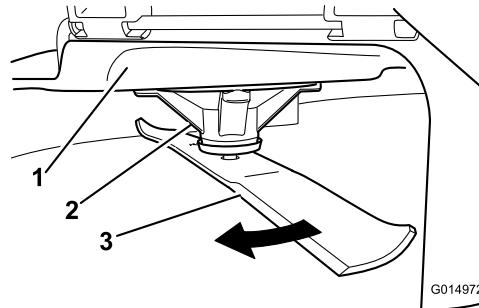

Figure 55
2. While wearing thickly padded gloves, or other adequate hand protection, slowly rotate the blade to be measured into a position that allows effective measurement of the distance between the cutting edge and the level surface the machine is on (Figure 55).